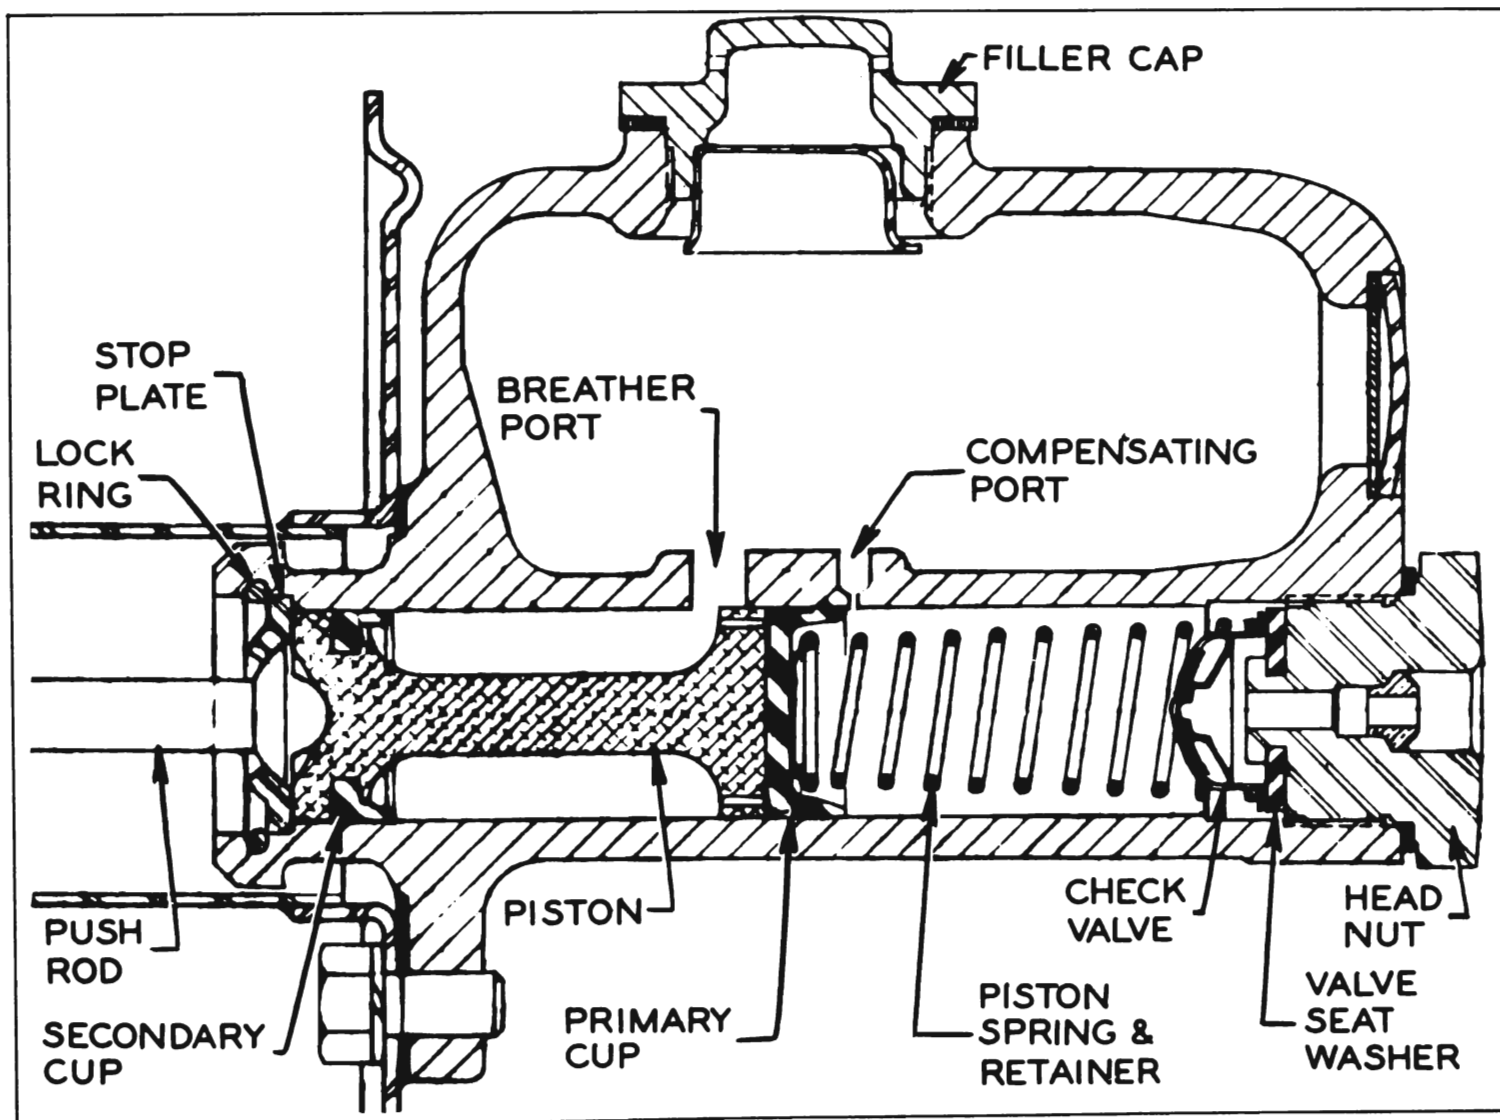

Figure 9-11—Brake Master Cylinder
3. Remove head nut, check valve and spring. Remove lock ring, then remove push rod, stop plate, piston, and primary cup. See figure 9-11.
2. Dip internal parts in brake fluid, then install piston with secondary cup, primary cup, spring with its retainer against primary cup, check valve, and head nut with rubber valve seat washer and nut gasket. Tighten head nut securely. See figure 9-11.